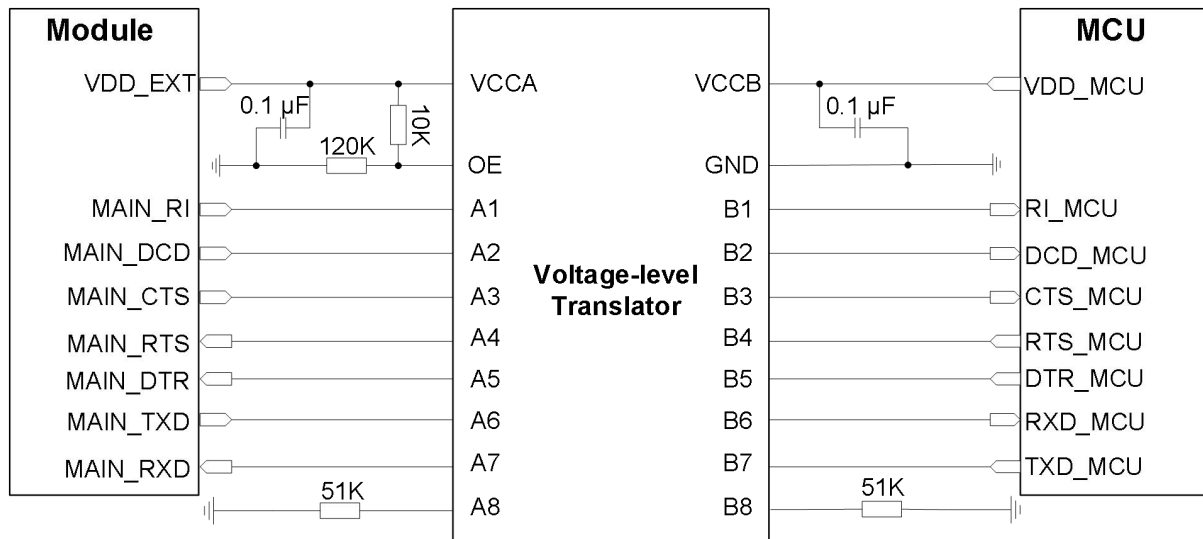
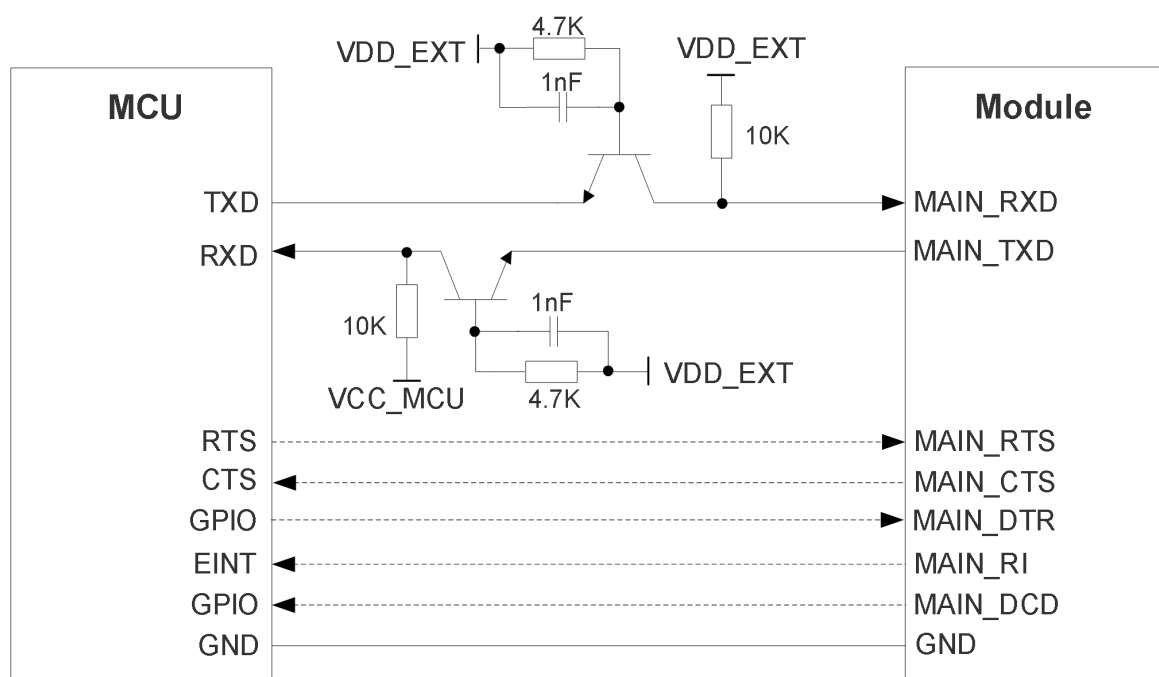

Figure 17: Main UART Reference Design (IC Solution)
Figure 18: Main UART Reference Design (Transistor Solution)
4. The level-shifting circuits (**Figure 17** and **Figure 18**) take the main UART as an example. The circuits of the debug UART are connected in the same way as the main UART.